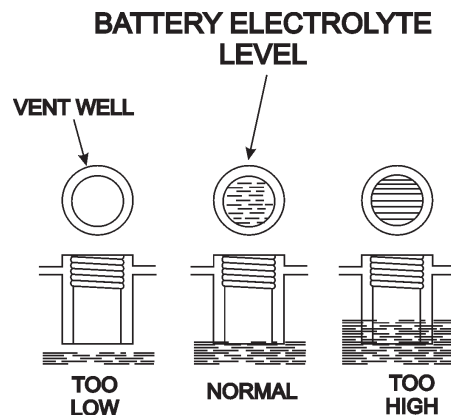

Figure 22. Battery Fluid Levels
- Check the battery regularly and make sure that each electrolyte level is to the bottom of the vent well (Figure 22). If necessary add only distilled water in a well-ventilated area.